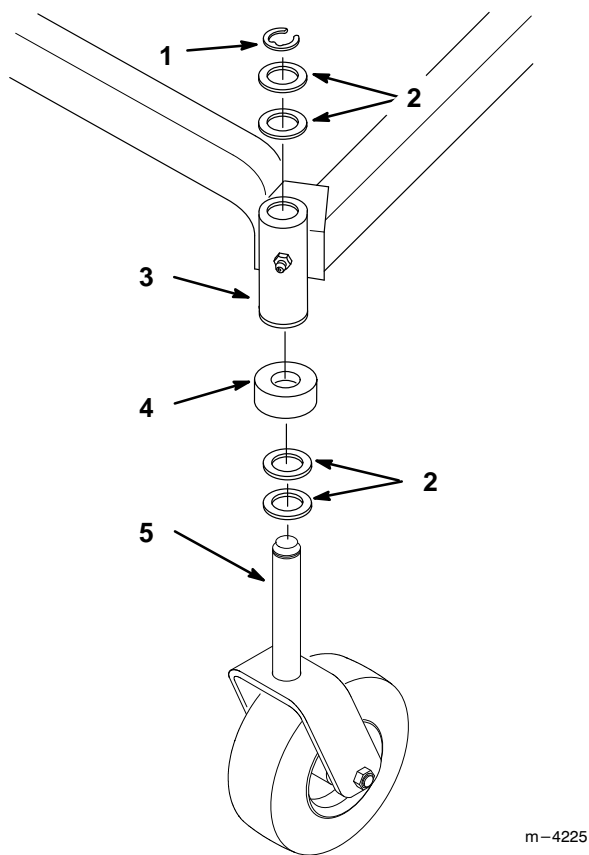

Figure 19
4. To change the front-to-rear pitch, move an equal number of thrust washers on both castor wheel forks. Move the thrust washer(s) from the top of the carrier frame mounting tube to the bottom to raise the front of the mower. Move the thrust washer(s) from the bottom of the mounting tube to the top to lower the front of the mower. (Fig. 19).
4. To change the side-to-side leveling, move the thrust washers on one castor wheel fork only. Move the thrust washers from the top of the carrier frame mounting tube to the bottom to raise the corresponding side of the mower. Move the thrust washers from the bottom of the mounting tube to the top to lower the corresponding side of the mower. (Fig. 19).